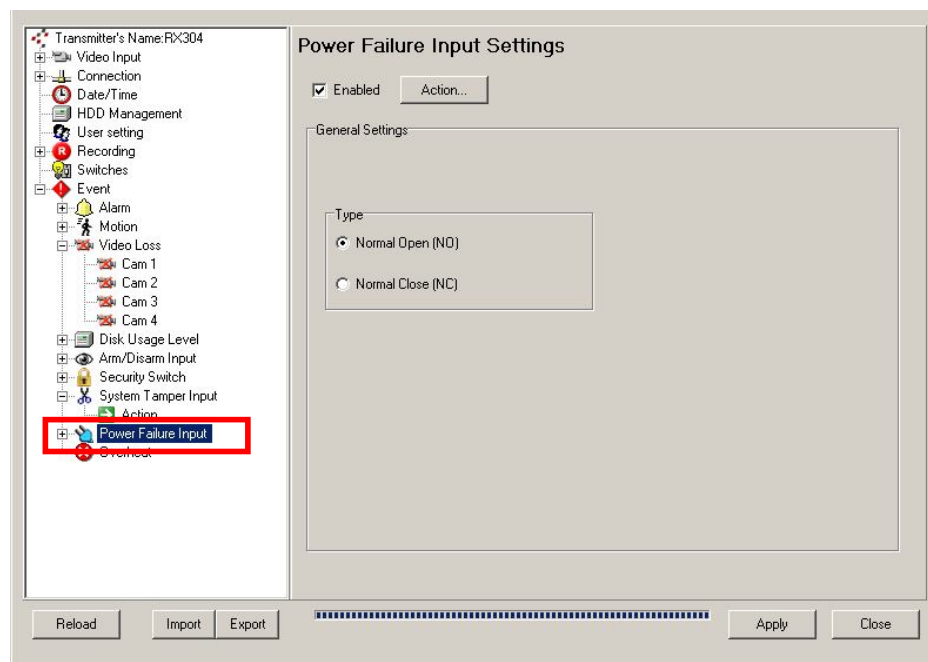

Fig 8.1.7a
Step 1 : In {Transmitter Setup} panel, click [Event] → [Power Failure Input] option to pop up {Power Failure Input Setting} panel as Fig 8.1.7a